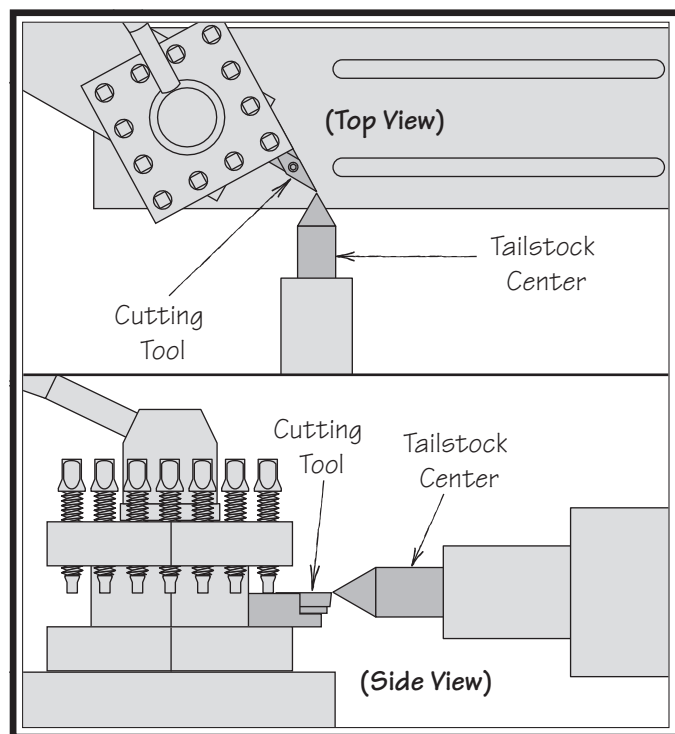

Figure 62. Cutting tool tip aligned with tailstock center.
4. Adjust the height of the cutting tool so that the tool tip is aligned vertically and horizontally with the center tip, as shown in **Figure 62**.